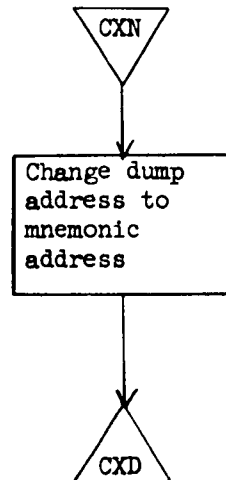

Figure 7.17
7.2.3.14 CXN Mnemonic dump (Figure 7.17)